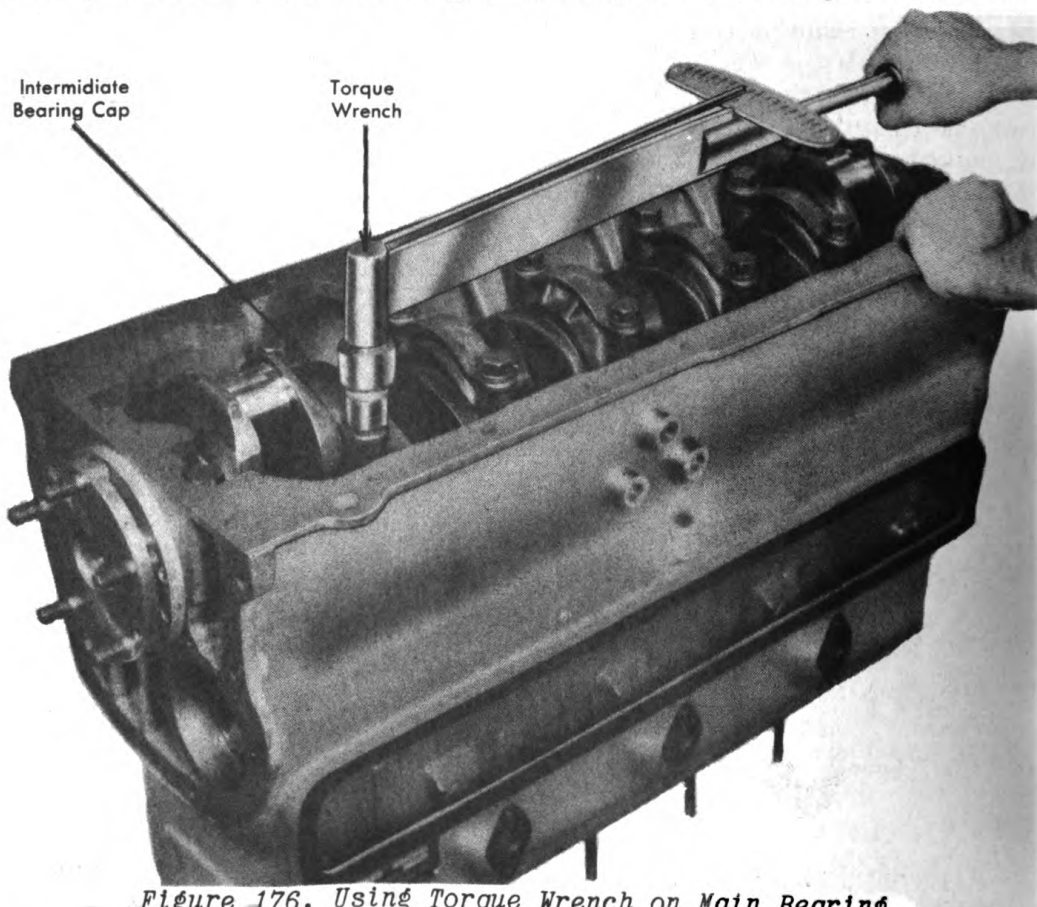
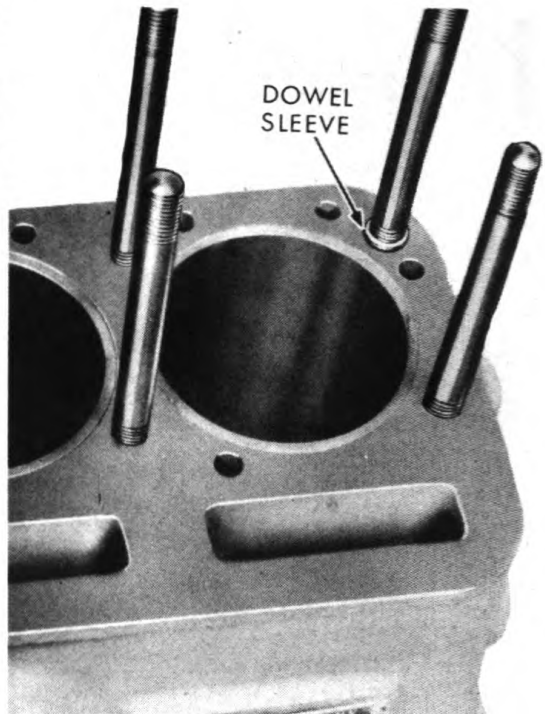
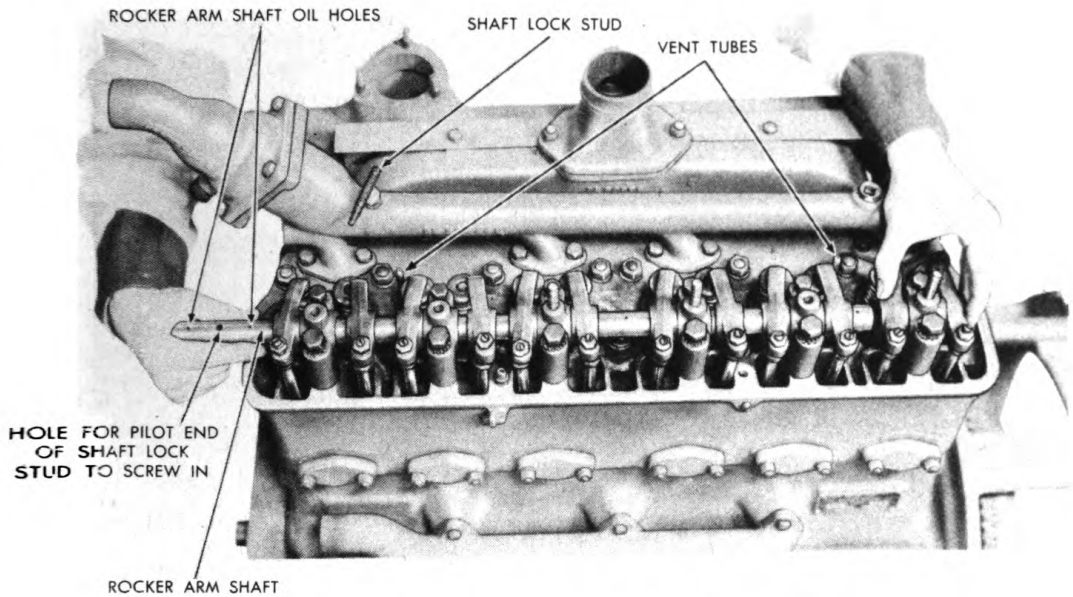

Figure 176. Using Torque Wrench on Main Bearing.
Figure 182. Crankcase Dowel Sleeves.
Figure 184. Installing Rocker Arm Shaft.
side of the engine. See Figure 137. Tighten the main bearing capscrews with a torque wrench to a tension of 125 to 135 foot pounds. See Figure 176. The bolt threads should be dry and clean. Turn the crankshaft by hand to be sure it is free. Before installing the lockwires, check the crankshaft end play. Slip a feeler gauge between the ends of the rear main bearing and the crankshaft as shown in Figure 131, and run the feeler gauge clear around the shaft. The proper clearance is .003 to .009. If more than .015", install a new rear main bearing or thrust flanges. Install the lock wires.
21. Place the interlocking cylinder head gaskets in position and install the cylinder head. Make certain that the cylinder head is seated on the two dowel sleeves in the crankcase before tightening the stud nuts. See Figure 182. With a torque wrench, tighten the stud nuts with a tension in foot pounds of 95 to 105. See Figure 176. Check to see that the cylinder breather tubes are in place and that the rocker arm oil line connection is in place. See Figure 184.
certain that the dowelled brackets go in their proper places. Lay the rocker arms in place in their respective positions and insert the rocker arm shaft turning it as it is being pushed. See Figure 184.